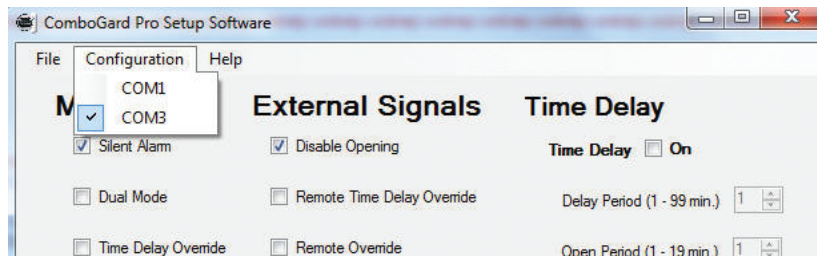

Figure 3.
3. Select the appropriate COM port from the list (Figure 3). For a USB Adapter select the virtual COM Port assigned by the system. For a Serial Adapter select the standard Serial COM Port to be used.